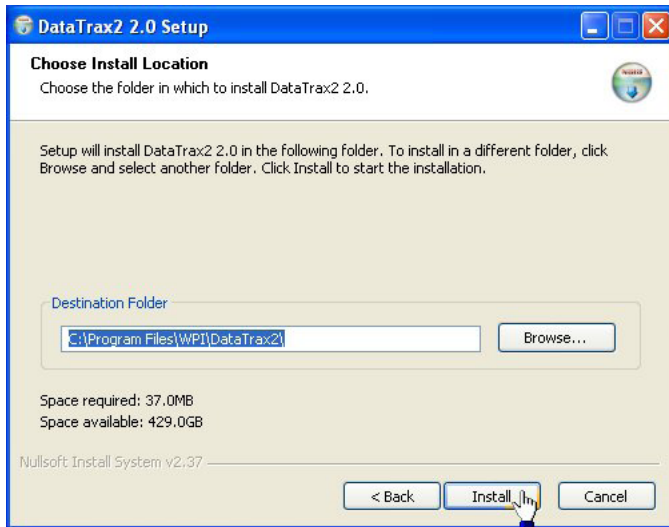

Fig. 22—Install location
- Verify that all three components (Main Section, Lab Experiments, and Drivers) are selected, and click the **Next** button. The wizard will ask where to install the program files (**Fig. 22**).